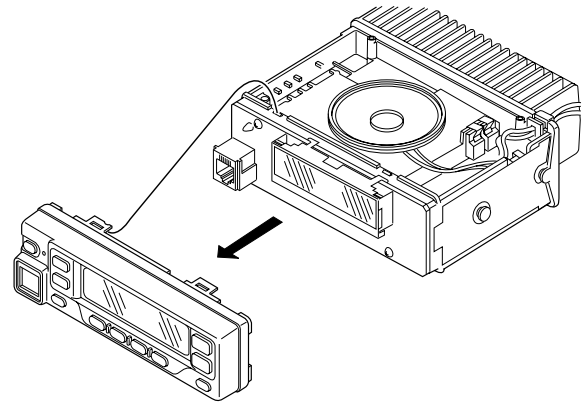

Fig. 15
1. Remove the control panel and the TX-RX unit (B/2) control section. (Fig. 15)